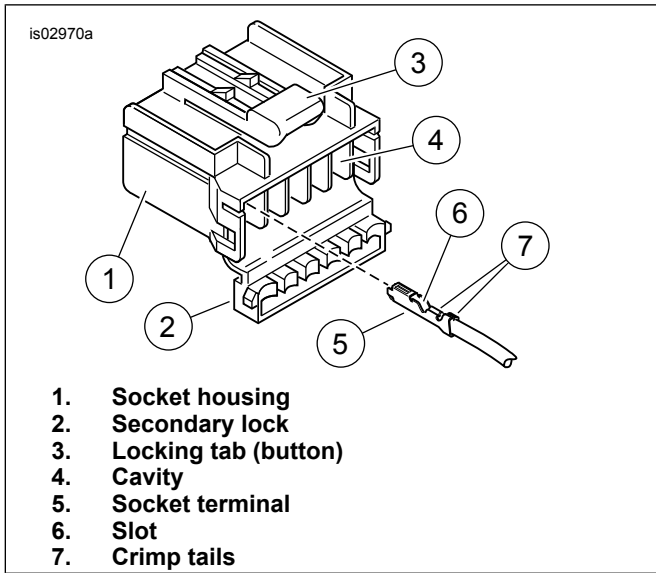

Figure 2. Socket Terminal Installation
- a. See Figure 2. On the secondary lock (2) side of the socket housing (1), position the socket terminal (5) with the slot (6) and crimp tails (7) facing up (in the same direction as the button (3) on the top of the socket housing).
- b. Insert the terminal into the correct cavity (4) until it snaps into place with an audible "click".